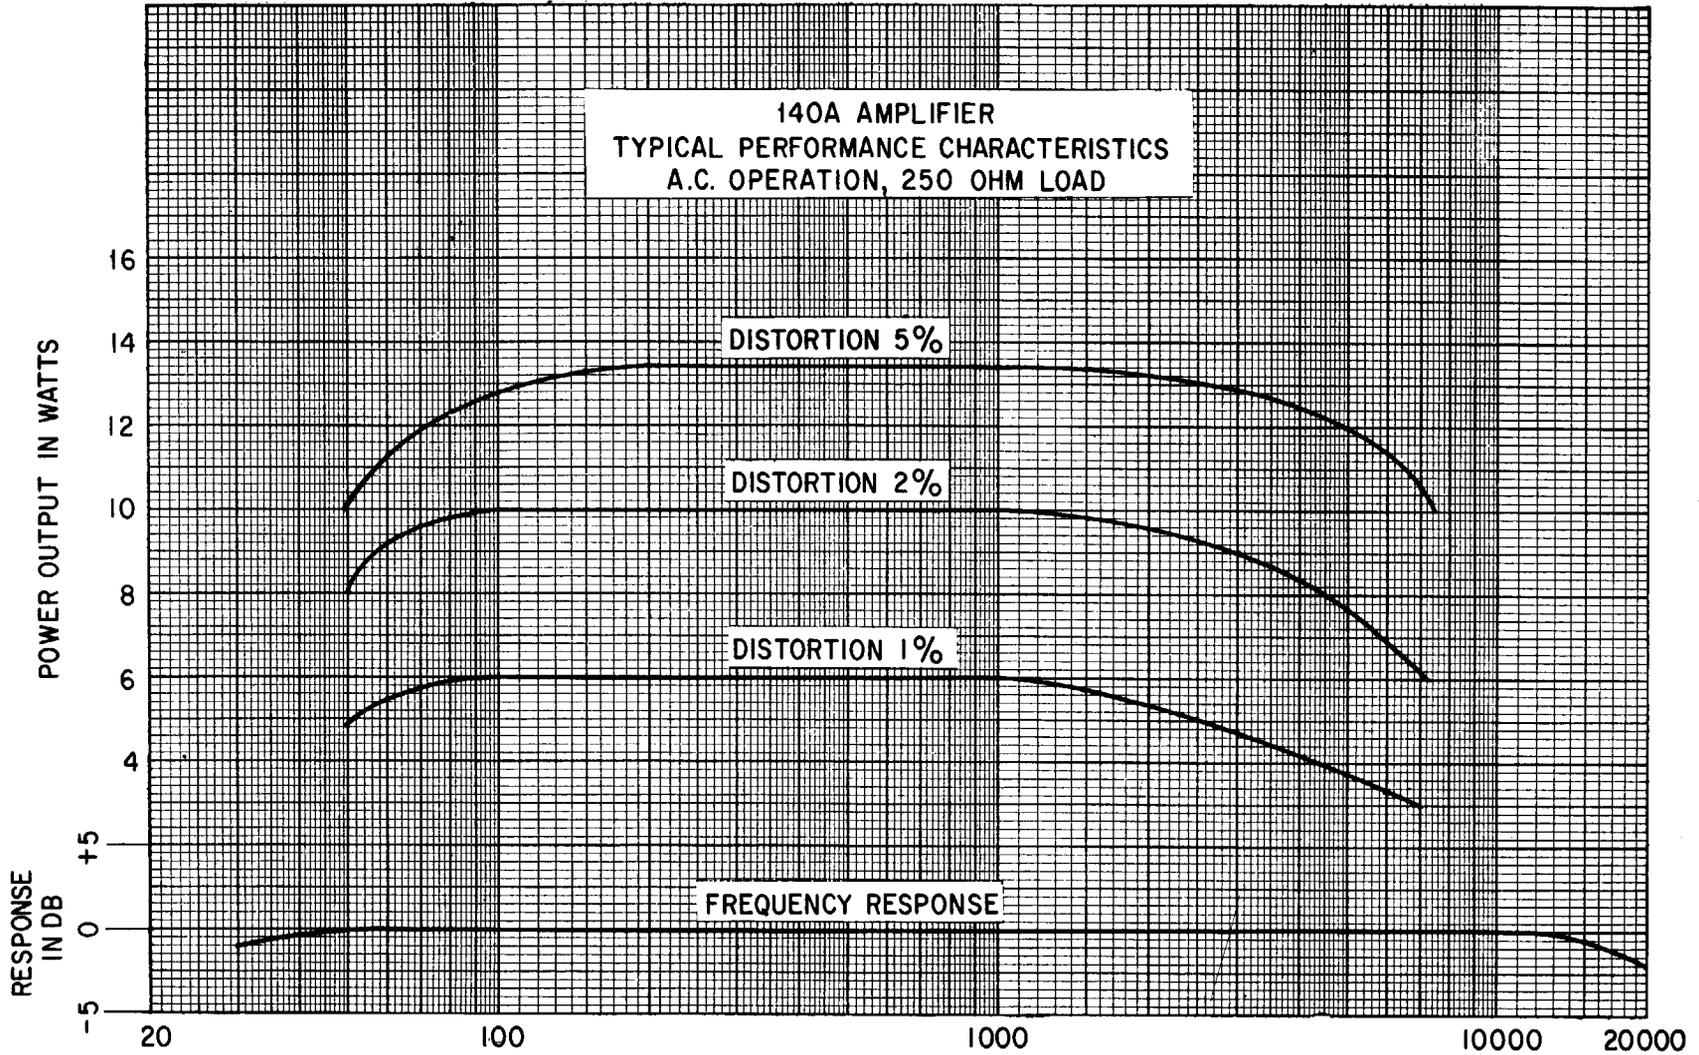

Fig. 6 — Frequency in Cycles Per Second
**2.22** Typical performance characteristics of this amplifier are shown in Fig. 6.